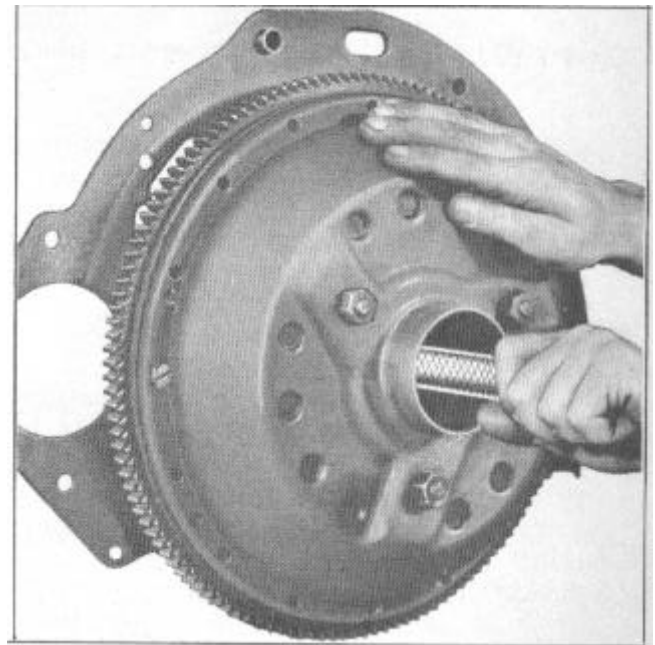

FIGURE 10
2. Place driving plate on pressure plate then insert the aligning arbor J-449, Figure 10, through cover and splines of driving plate and into pilot bearing in flywheel. Push the assembly up into place on the flywheel and